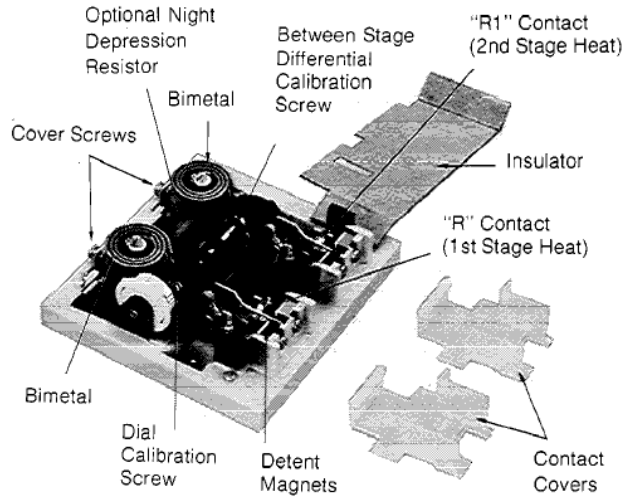

Figure-1 Part Identification.
3. Remove thermostat cover, remove screw that secures right-hand of insulator, fold back insulator, and remove contact covers, see Figure-1.